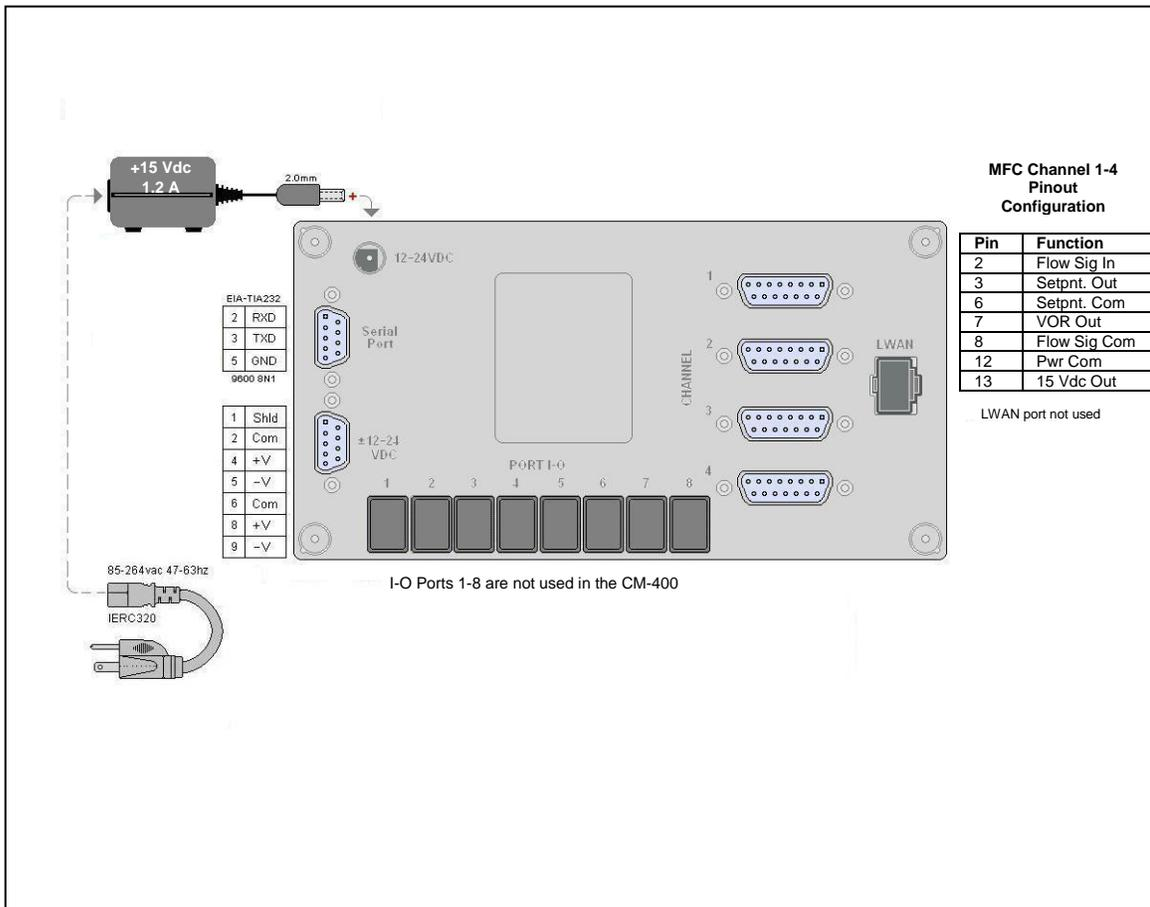

Figure 4: Image of pin out details and connections of the Porter CM-400
A 15 volt, 1.2 Amp DC power supply is provided with the CM-400 module. This supply has adequate capacity to power up to four (4) Porter Thermal Mass Flow devices. When using the CM-400 with products other than Porter MFC's it is the responsibility of the user to determine compatibility with the power supply. Interconnect cables (Part Number: C-1666-010) are available for connecting Porter Mass Flow Controllers to the CM-400. Pin out details of the CM-400 MFC connections and power supply connection are shown in Figure 4.